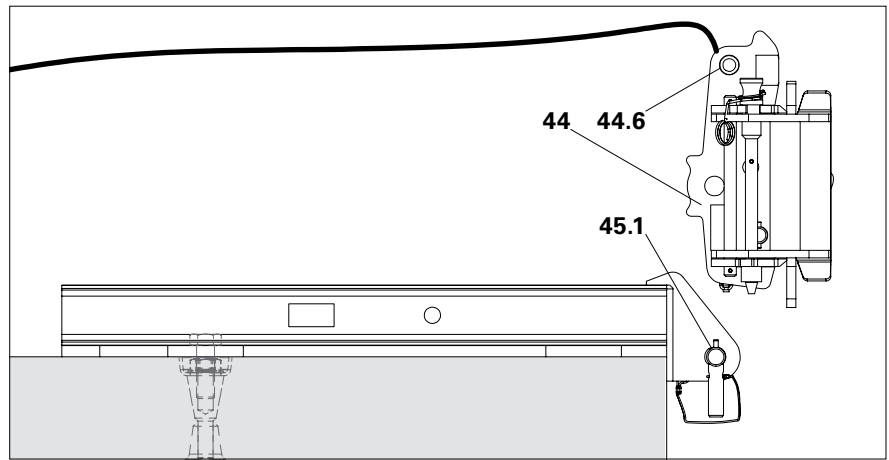

Fig. D1.12
1. Secure Climbing Shoe RCS (44) on bolts for connecting the Climbing Device (44.6) against falling to the ground.
3. Pull Climbing Shoe upwards and lay on floor slab; then insert locking pin (45.1) into the Slab Shoe again. (Fig. D1.12)